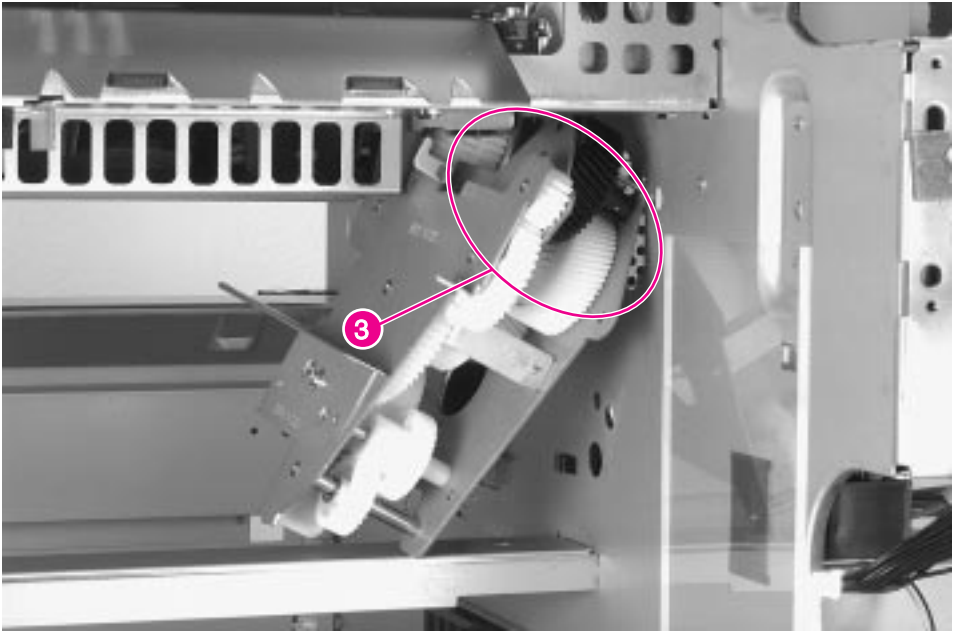

Figure 6-30 Main Gear Assembly (3 of 3)
- 2 Tilt the top of the assembly inward and insert the upper back part of the assembly in place (figure 6-30, callout 3).